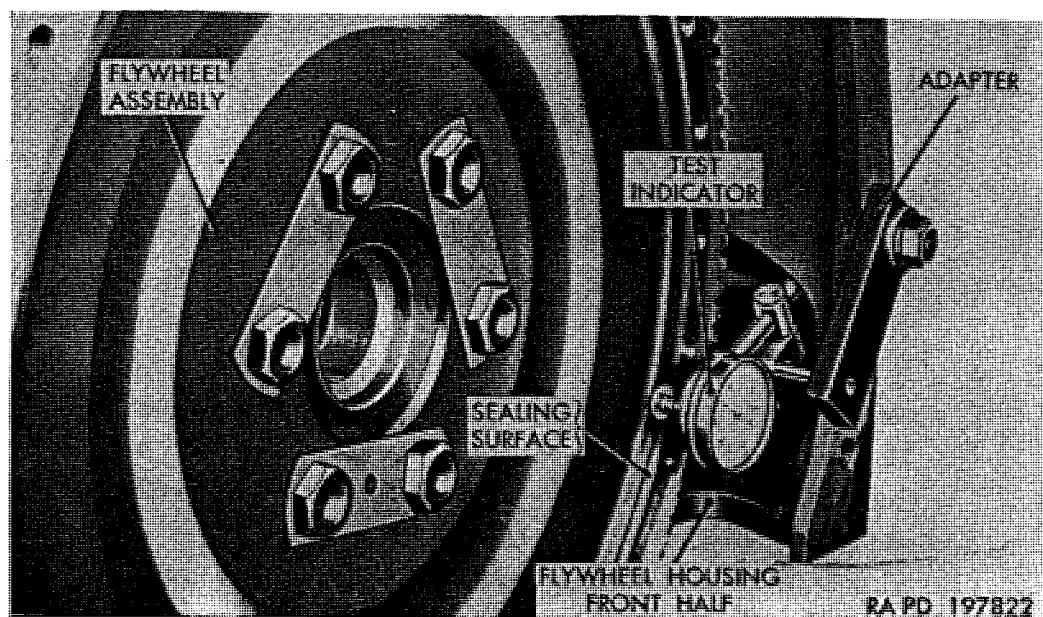

Figure 213. Checking engine flywheel runout.
- (a) With torus cover removed, mount test indicator on flywheel housing front half so stem of indicator will contact sealing surface of flywheel, just inside the row of torus cover bolt holes as shown in figure 213.